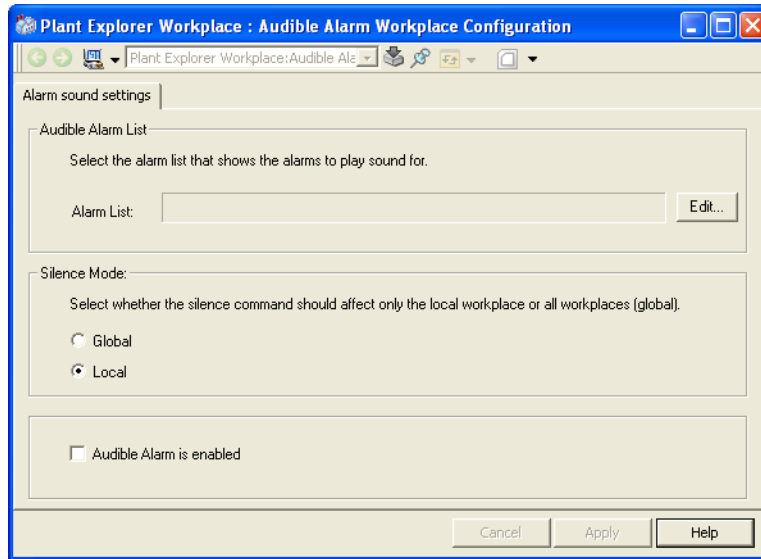

Figure 28. Audible Alarm Workplace Configuration Aspect
2. Select your Workplace object and open the Audible Alarm Workplace Configuration aspect. Refer to Figure 28.